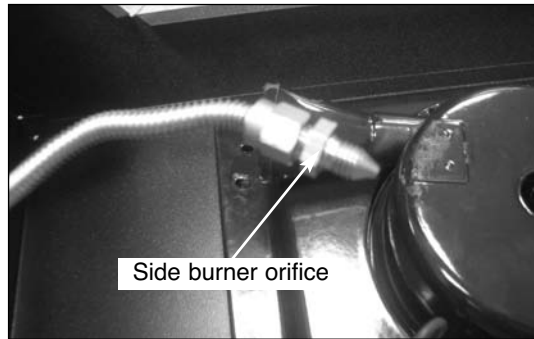

Fig 17
20. Use a wrench to remove the side burner orifice from the flex line and replace it with the NG orifice provided in the kit. (See Fig. 17)